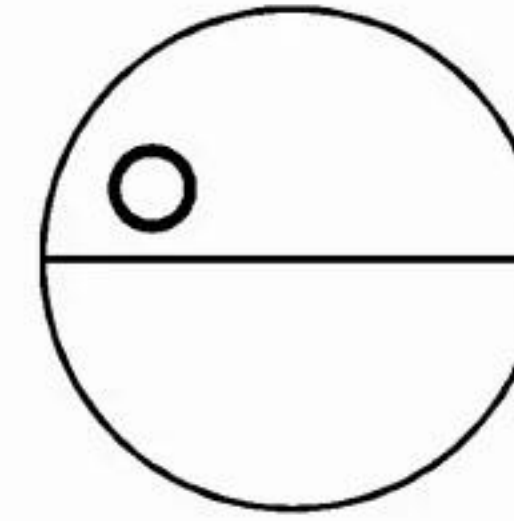

Fig. 9
- G. Location of fluorescence ring is close to upper left. Move slit lamp leftwards. Adjust height to pull down (Fig. 9).